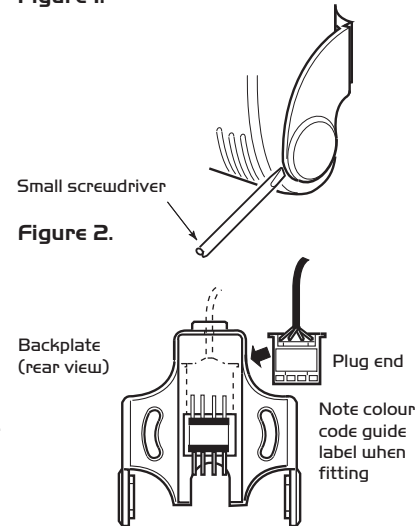

Figure 3.
e) Before fixing the backplate to the wall, connect the wall fixed cable end plug to the upper set of pins on the bracket (fig 3).